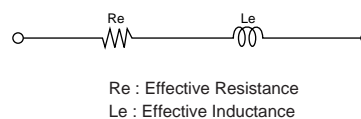

Fig.2-4 Equivalent Circuit of CERALOCK® in the Frequency Band $F_r \leq F \leq F_a$
Considering the limited frequency range of $F_r \leq F \leq F_a$, the impedance is given as $Z = R_e + j\omega L_e$ ($L_e \geq 0$) as shown in Fig.2-4, and CERALOCK® should work as an inductance L_e (H) having the loss R_e (Ω).